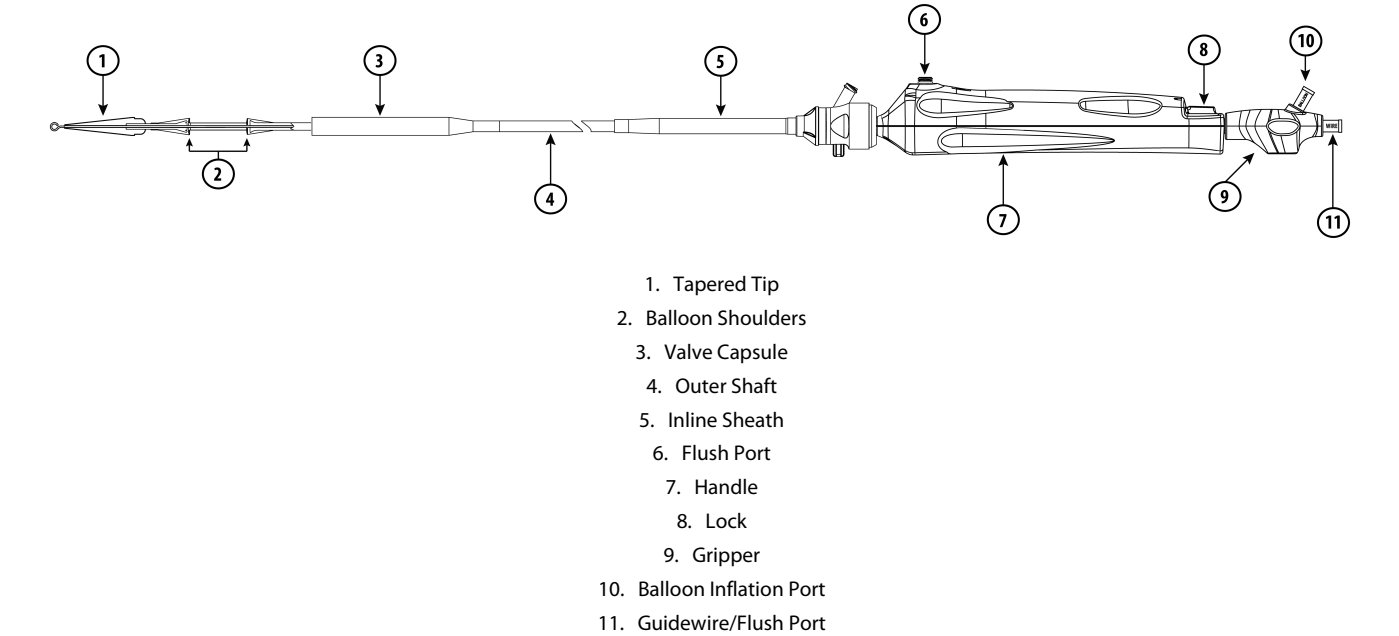

Figure 2: Edwards SAPIEN 3 Pulmonic Delivery System
• **Edwards SAPIEN 3 Pulmonic Delivery System (PDS) (Figures 2, 3, 4)**
The Edwards SAPIEN 3 pulmonic delivery system (Figure 2) facilitates the placement of the bioprosthesis. It consists of an inline sheath, balloon catheter for deployment of the Edwards SAPIEN 3 transcatheter heart valve, and an outer shaft and valve capsule to cover the transcatheter heart valve during insertion